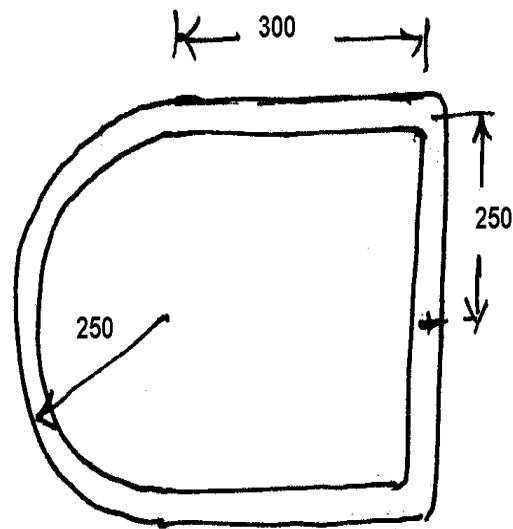

Figure 4:
5. Uniform thickness  $t=5\text{mm}$  Determine the Shear Centre for an air craft box beam shown in figure 4. [16]